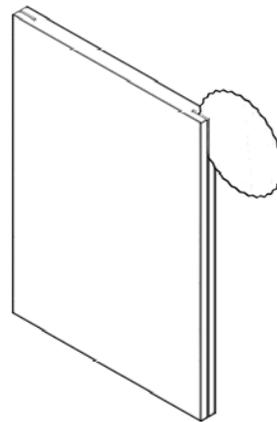

Figure 11
- c. Next, cut a kerf slot into the vertical edge of Panel (to allow Panel slot to slide onto Post flange), with carbide- tipped circular saw (figure 11) to accept post flange..